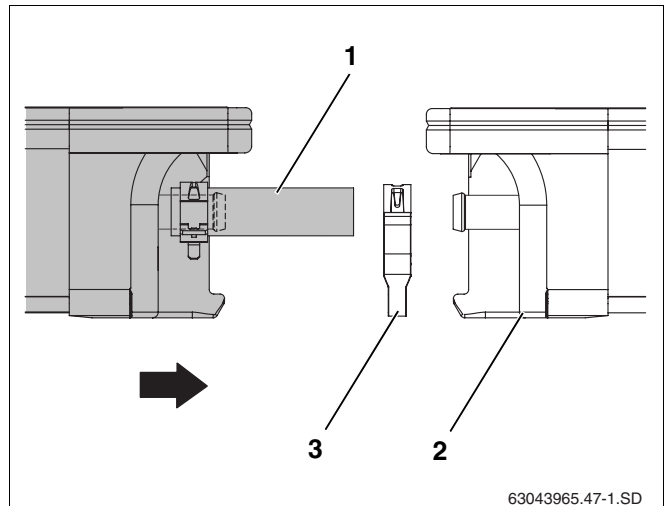

Fig. 46 Pushing second collector towards the first
- ▶ Place second collector along with the pre-assembled solar hoses (Fig. 46, **Item 1**) onto the profile rails and let it slide into the anti-slip protectors.
- ▶ Push the second hose clip (Fig. 46, **Item 3**) onto the solar hose.
- ▶ Push the collector towards the first collector (Fig. 46, **Item 2**) in such a way that the pre-assembled solar hoses are pushed onto the left-hand connections on the first collector.